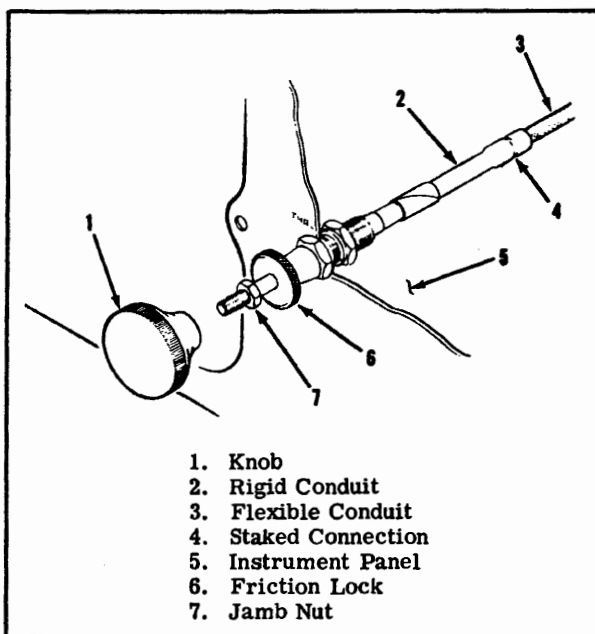

Figure 12-3. Throttle Control
Before rigging the throttle control on aircraft with the type control shown in figure 12-3, check that staked connection (4) between rigid conduit (2) and flexible conduit (3) is secure. If any indications of looseness or breakage is apparent, replace the throttle control before continuing.
- Screw jamb nut (7) all the way down (clockwise) and reinstall the throttle knob. Screw the knob securely against the jamb nut. Do NOT back the jamb nut out. This will prevent bottoming and possible damage to the stacked connection.
- Disconnect the throttle control at the engine, push the control in until jamb nut hits friction lock (6) while the friction lock is loose, then pull the control out approximately 1/8 inch for cushion.
- Tighten friction lock (6), being careful not to change the position of the throttle.